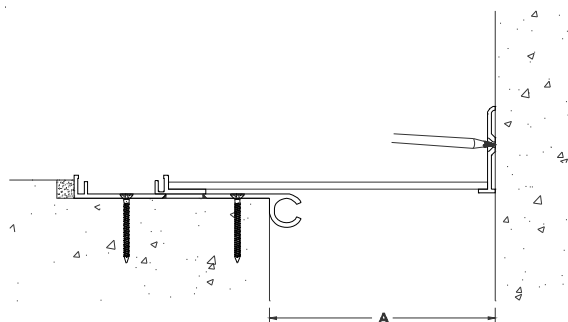

Figure 11
**STEP 12.** Select a cover plate and place it into its installed position against the wall and on the base member. Ensure that the cover plate is level and properly aligned with the base member. Using the cover plate as a template, mark the locations for the cover plate anchors on the substrate, see Figure 11.